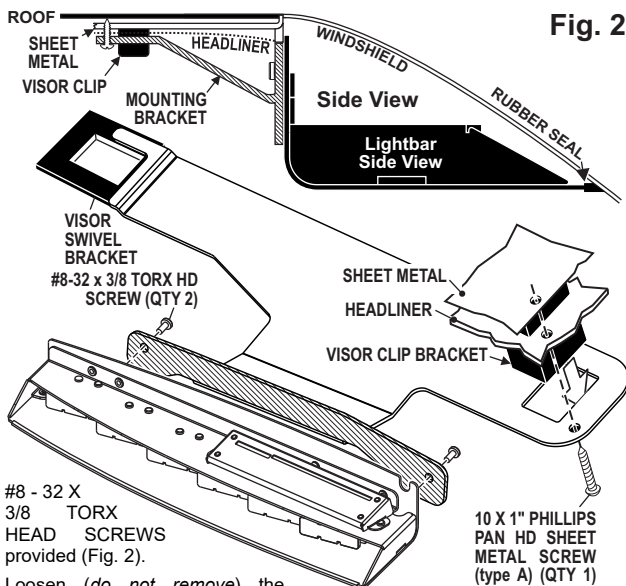
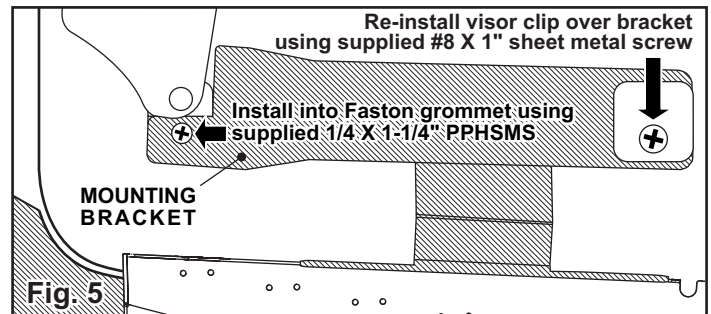

**Fig. 1**
**Fig. 3**
3. Secure mounting bracket to Inner Edge housing using hardware provided (Fig. 1).
4. Position the keyed opening of the mounting bracket directly under the location of the visor clip removed in step 2 and remount the visor clip in its original location using the original hardware (See Spacer installation in Fig. 1).
Figures 1 thru 3 show the driver side of the interior, looking up at the roof.
1. On the driver side visor swivel bracket, carefully pry the plastic cover off of the front of the bracket (Fig. 3). The lightbar mounting bracket will sit in the space that the cover occupied. NOTE: Pry the cover off using two flat blade screwdrivers on each side to avoid braking the cover. The cover will not be used here but should be saved in case you wish to remove the lightbar in the future.
2. Remove the swivel bracket mounting clip (located under the cover you removed in step 1) and lift the swivel bracket assembly out. Install the supplied fastener into the hole in the roof sheet metal which the clip snapped into. Reinsert the swivel bracket assembly (Figs. 3 & 4).
3. On the vehicle visor clip, remove the screw holding on the clip (The supplied #8 X 1" sheet metal screw will replace this screw) and remove the clip. (Figs. 3 & 4).
4. Secure the mounting bracket to the lightbar and position the bracket where it will mount on the vehicle (Fig. 1 side view). NOTE: The rubber seal should be in full contact with the windshield and the rear of the lightbar should be in contact with the roof to prevent light from entering the passenger compartment
1. Remove the vehicle Visor Clips. The bracket will sit under these clips after mounting (Fig. 1).
Screw (Fig. 1). Loosely mount the bracket to the vehicle then pull the bracket as far back from the windshield as it goes (Fig. 3). With the bracket in place tighten the mounting hardware.